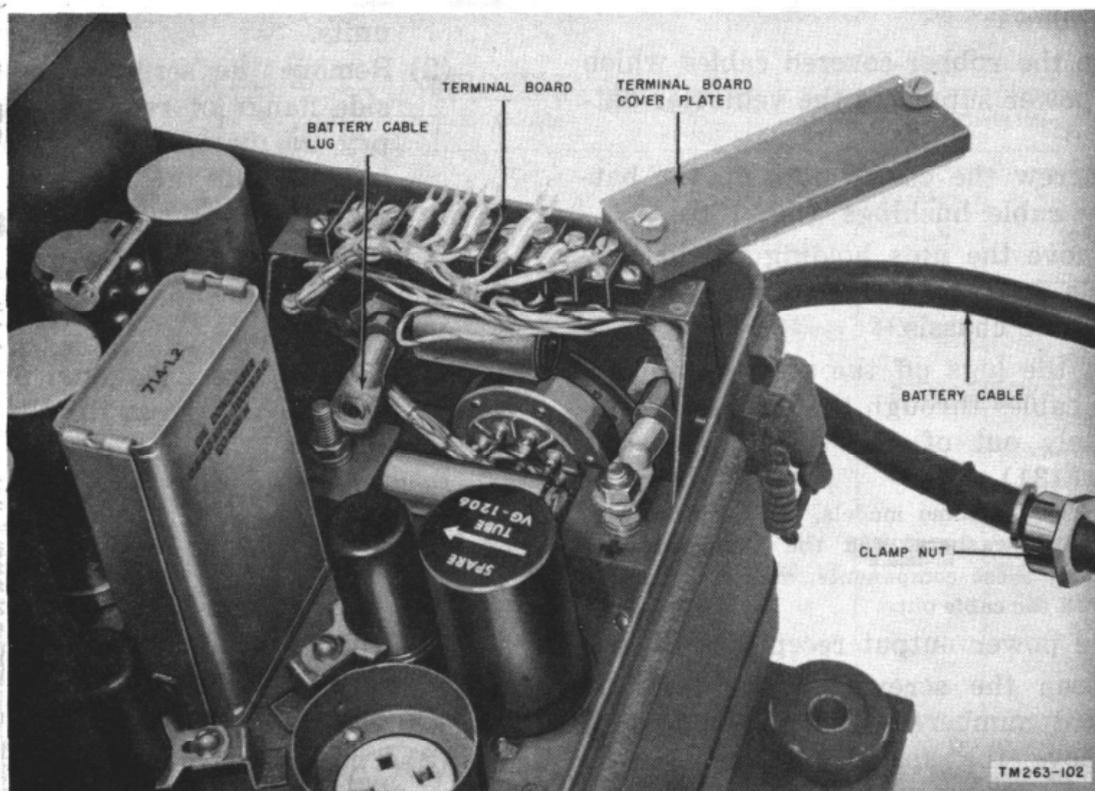
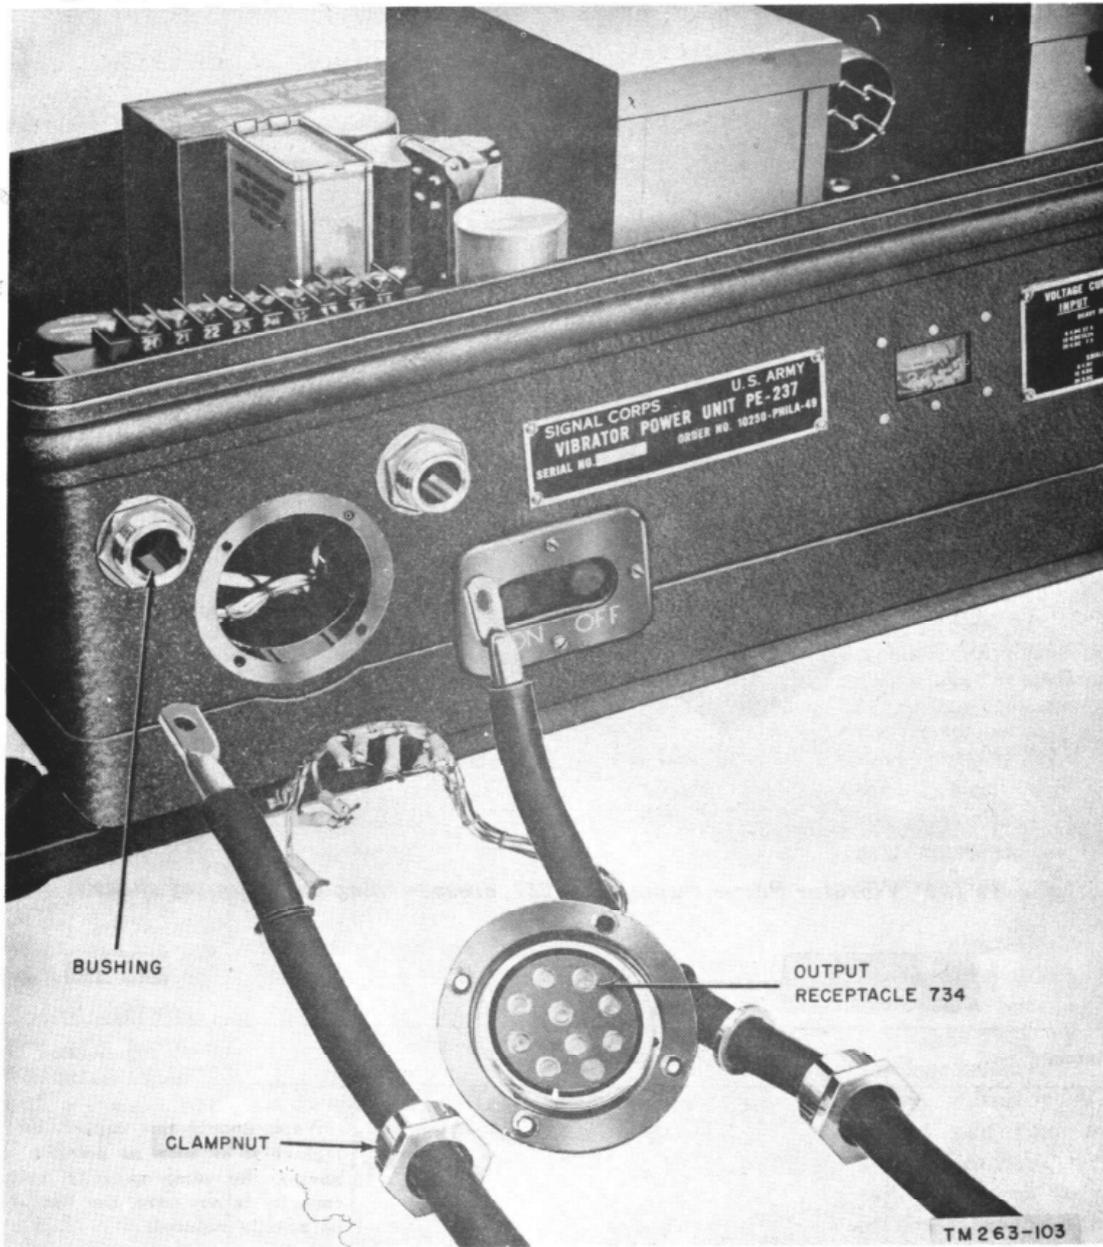

Figure 130. Vibrator Power Supply PE-237, terminal board and battery cable connections.
Figure 131. Vibrator Power Supply PE-237, battery cables and power output receptacle 734.
(fig. 130), exposing the terminal board spade lug connections. The numbers on the board correspond to those on power output receptacle 734.
- (1) Unscrew the clamp nuts on the battery cable bushings (fig. 130).
- (2) Remove the nuts holding the battery cable lugs to the terminals on the vibrator chassis.
- (3) Lift the lugs off the screws and pull the cables through the bushings, completely out of the vibrator housing (fig. 131).
- (2) Remove the screws around the outside flange of receptacle 734. Gently pry the flange away from the housing, and pull the entire receptacle out, including the wires attached to its terminals (fig. 131).